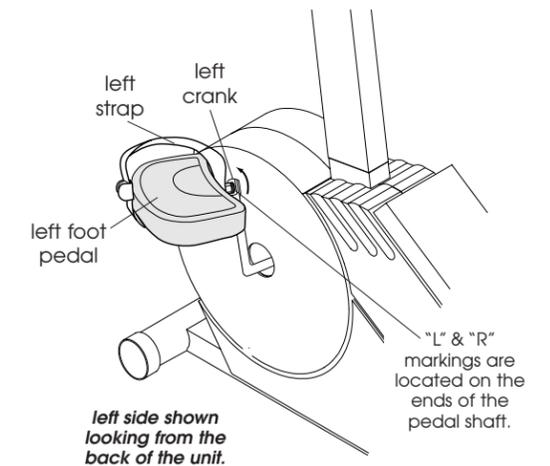

Figure 7 - Install Foot Pedals
- Insert Pedal Shaft of Left Foot Pedal into threaded hole in Left Crank, see Figure 7.